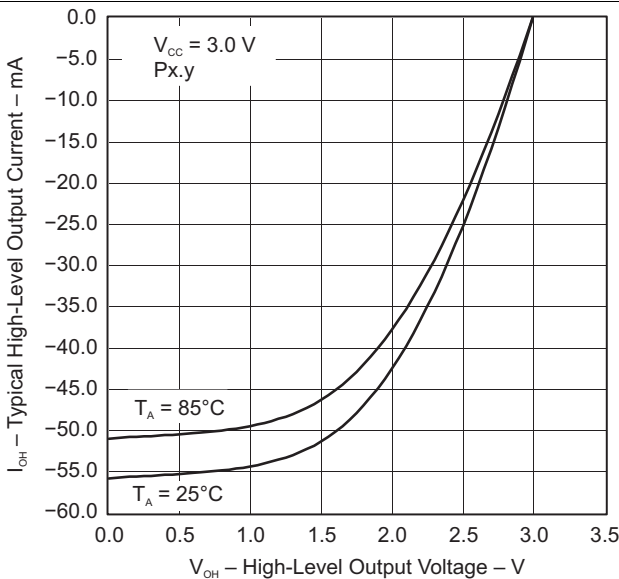
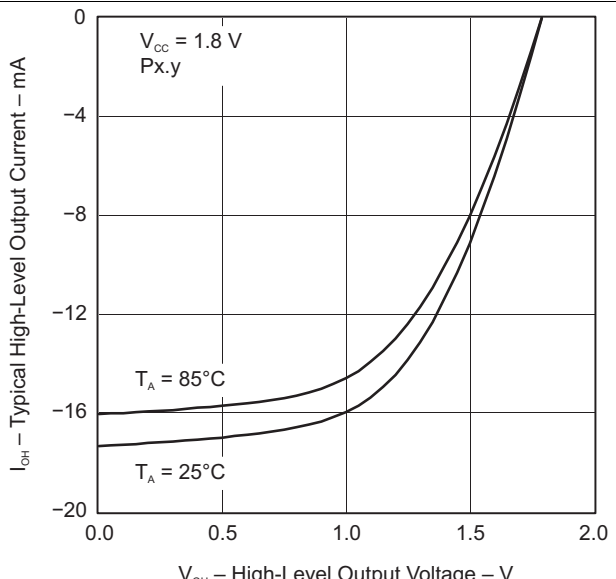

Figure 5-8. Typical High-Level Output Current vs High-Level Output Voltage
Figure 5-9. Typical High-Level Output Current vs High-Level Output Voltage
| V OH High-level output voltage(see Figure 5-8 and Figure 5-9) | I (OHmax) = –3 mA (1)  | 1.8 V           | V CC – 0.25 | V CC        | V    |